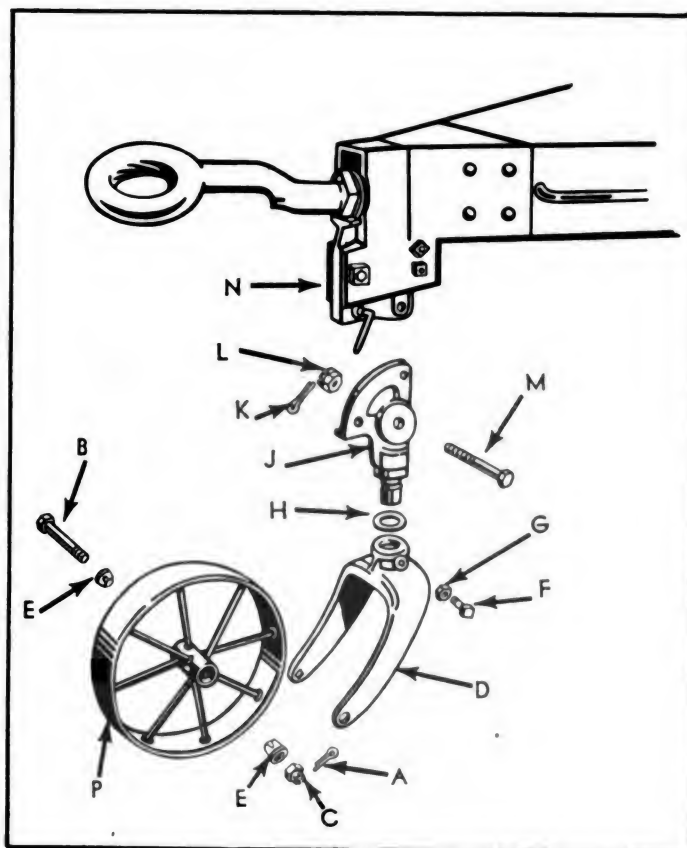

FIG. 97 Removing Caster Wheel
To remove the quadrant and swivel pin (J) (See Fig. 97) remove the cotter pin (K), castellated nut (L), and capscrew (M), that holds the quadrant (J), to the drawbar bracket (N).